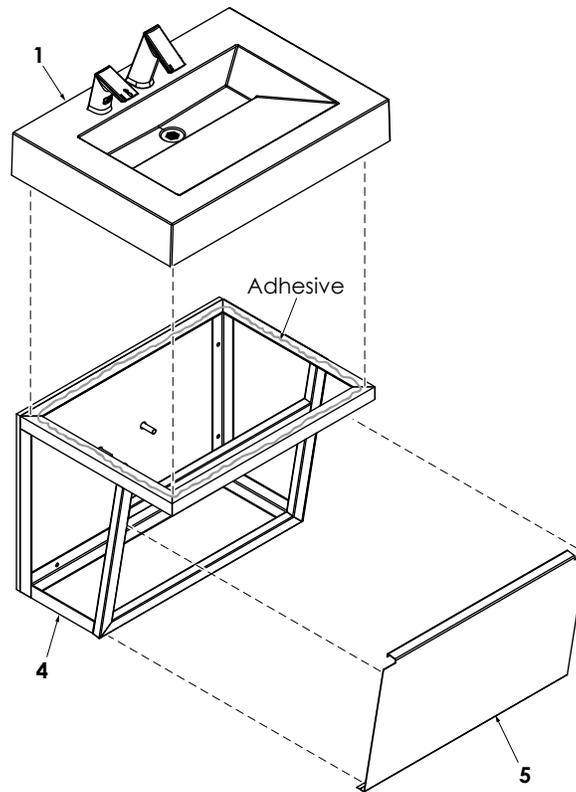

Figure 7
7. Install Deck (1, Figure 7) onto Enclosure (4).